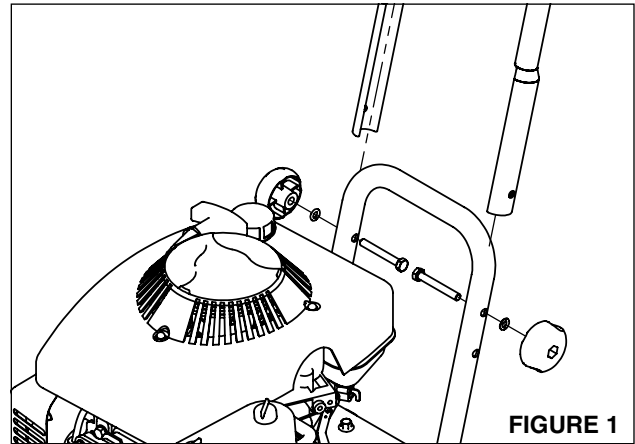

FIGURE 1
- a. Assemble top handlebar over lower loop. Put M8 x 60 bolts through both holes from inside out. Put on M8 spring washers and tighten with hand knobs. **SEE FIGURE 1.**